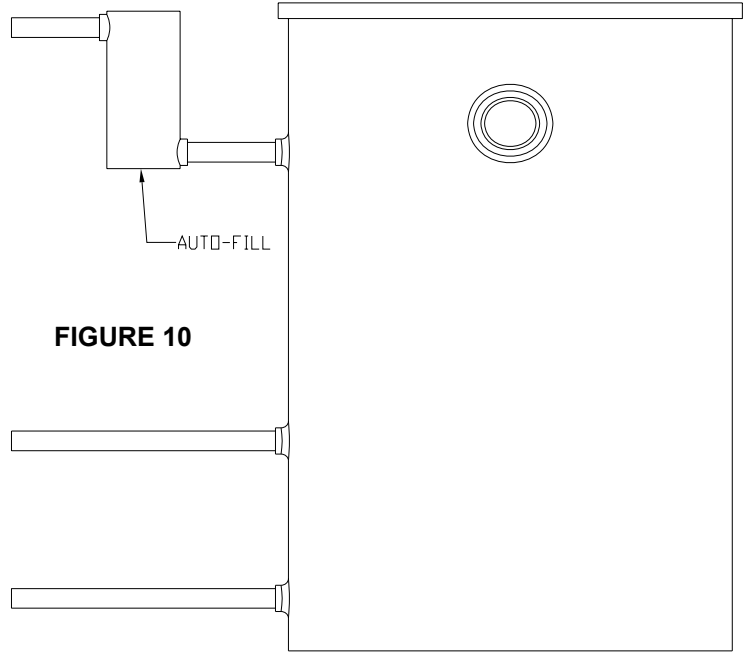

FIGURE 10
4. **AUTO-FILL:** Another optional item for the Stand Alone version of the WetDek, an Auto-Fill can be attached to the top 1 ½" fitting on the Reservoir to regulate the water level in the tank, as shown in **FIGURE 10**. This is recommended for WetDecks located in hot climates where evaporation will have a greater effect on water levels.